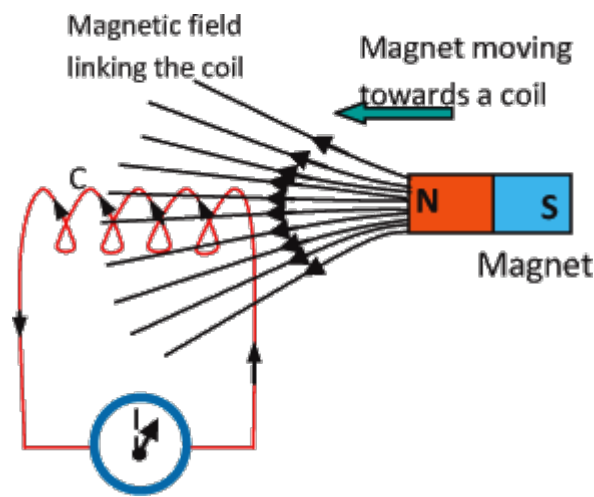

Figure 6.1 Coil and magnet experiment
Figure 6.1 shows a coil with the terminals connected to a galvanometer (G). This simple apparatus is used to demonstrate the induction of current or voltage in a coil.